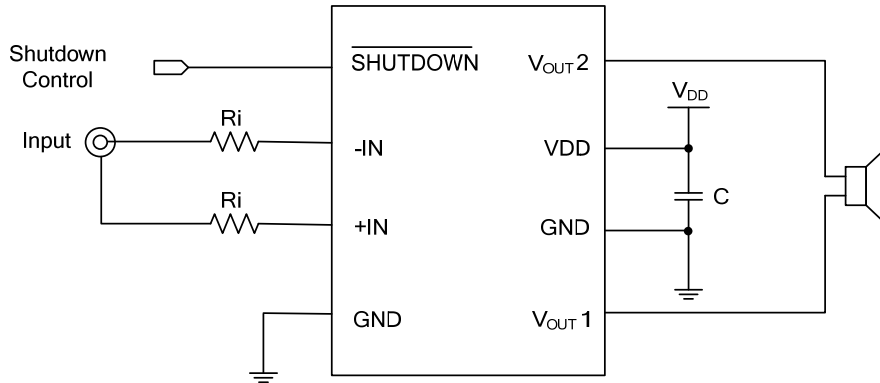

Fig. 2 Typical Audio Amplifier Application Circuit
The **M4670**'s gain is set by the external resistors  $R_i$ , shown in Fig. 2, the gain of the equation by (2) is given. When the gain of 2V/V (6dB), the THD+N performance of the best.